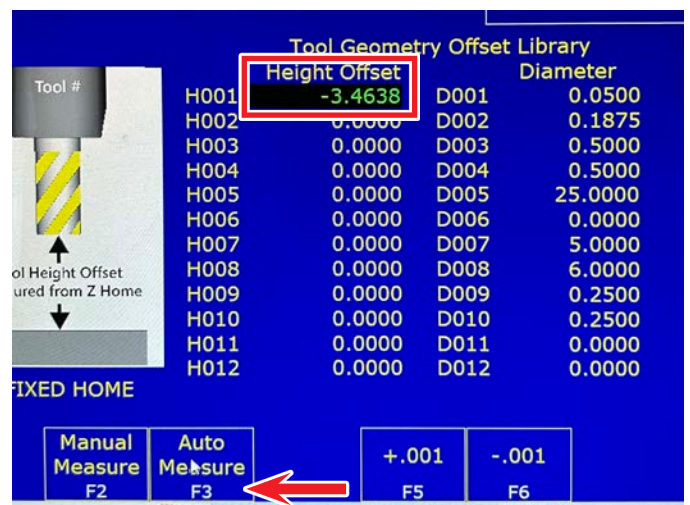

FIGURE 35
- At this time the errant Height Offset value will show in Green. Place the tool Setter back in its position on the table. Then click on Auto Measure F3 again. This time allow the touch off cycle to bring the tool all the way down to make contact with the tool setter (see Figure 35).